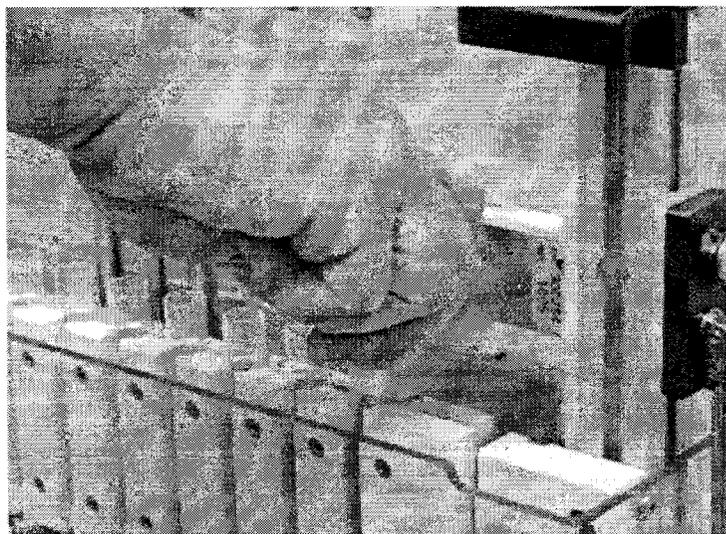

Figure 9. Seating the RV with the RV Insertion Tool
3. Press down on the RV with the RV Insertion Tool to seat the RV over the male Teflon RV fitting of the Lower Drain Manifold (**Figure 9**).